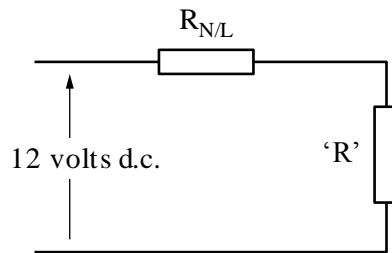

Fig Q2
2. Fig Q2 shows a non-linear resistor connected in series with a linear resistor 'R' to a 12 V d.c. supply. The characteristic of the non-linear element is given by $I(\text{mA}) = V^{3/2}$.